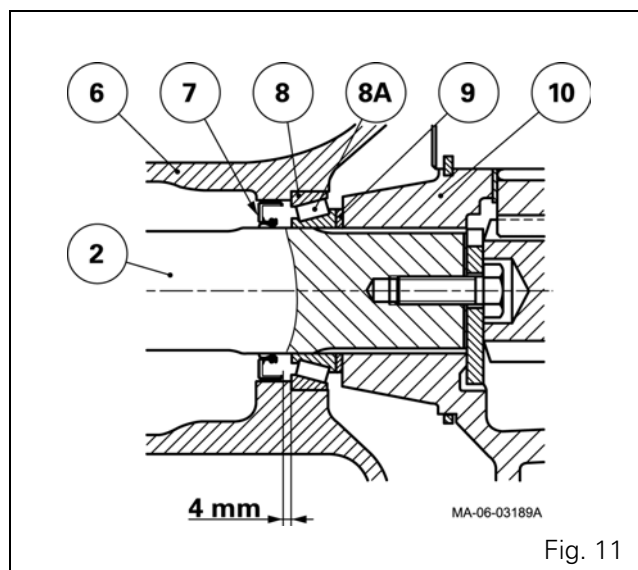

Fig. 11
66. Smear the external diameter of the seal (7) with Loctite 542 (metal cage).
67. Replacing the seal (7):
- without shaft replacement (2):** to avoid the seal lip from bearing on the same place on the shaft, insert the seal 4 mm from the shoulder of the cup (8) (Fig. 11).